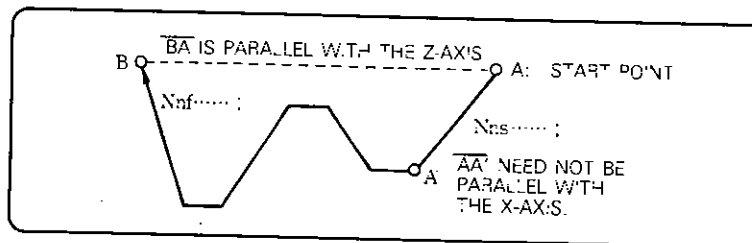

Fig. 2.13.22 Restrictions of the End Block of the Finishing Form Program
- The end block of the finishing form program has restrictions as shown in Fig. 2.13.22.